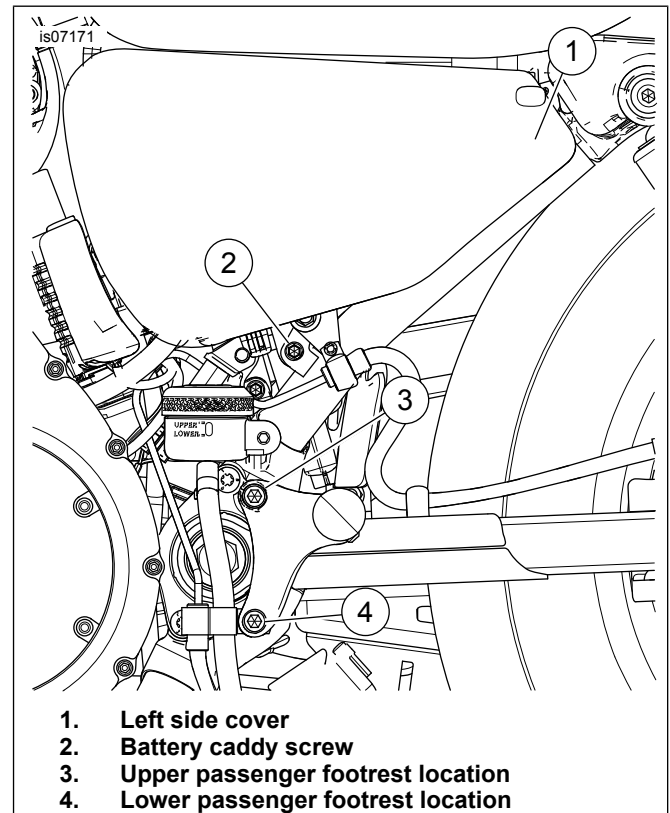
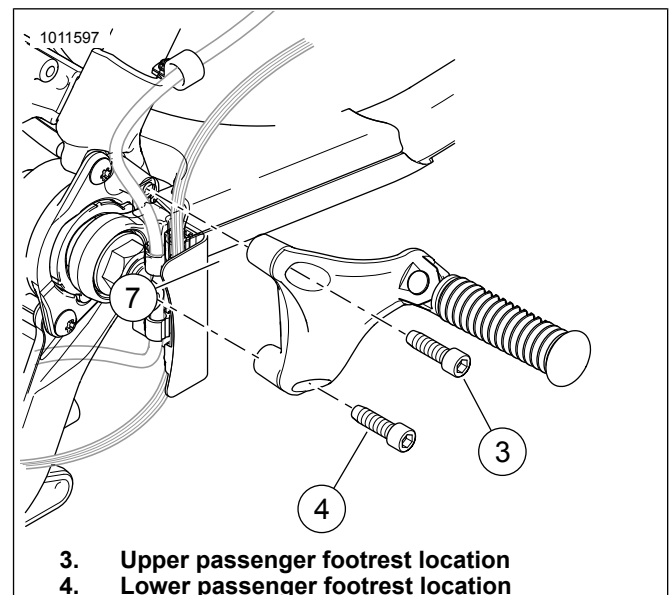

Figure 1. Swingarm Bag Installation (2013 and earlier shown)
Figure 2. Swingarm Bag Installation (2014 and later shown)
1. See Figure 1 or Figure 2. Remove plastic hole plug from frame at left side upper passenger footrest location (3)
2. Remove screw from left side lower passenger footrest location (4).
10. See Figure 1. Replace side cover (1).